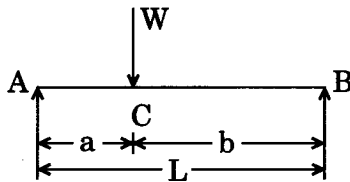

Figure 5
- (b) A simply supported beam of span L carries a concentrated load of W at a distance 'a' from the left support and 'b' from the right support as shown in Figure 5. The plastic moment of resistance of the section is M_P . Show that the value of collapse load is $\frac{M_P L}{ab}$. 7